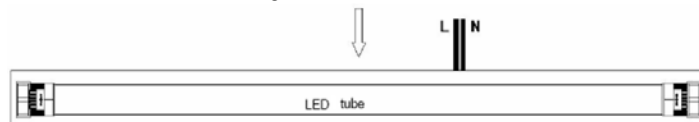

Figure 7
STEP 8: Attach the field-applied label to the luminaire. Install the ballast cover and diffuser (if applicable) back on luminaire, and LED T8 tube as show in Figure 7.